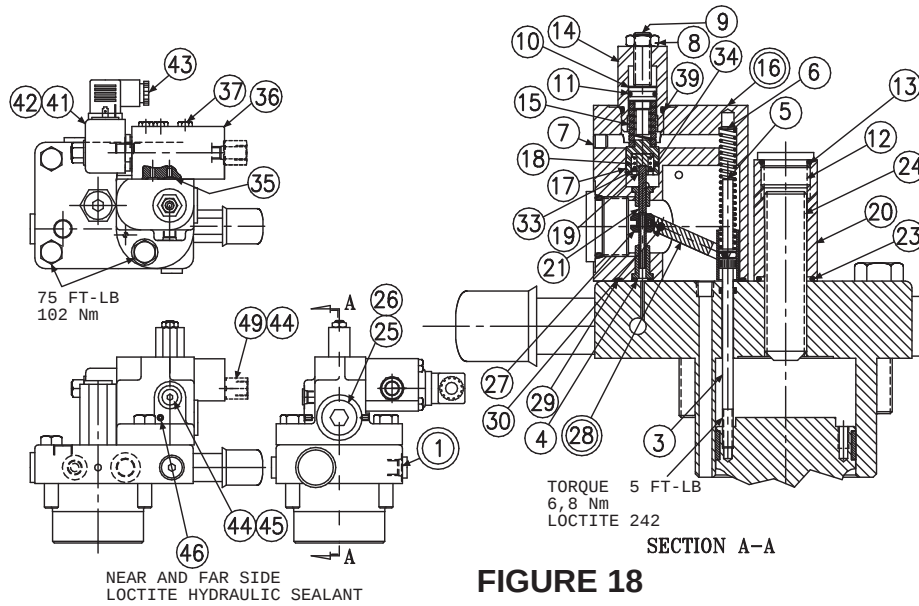

FIGURE 18
PARTS LIST FOR FIGURE 18
1. **See Figure 18.** Remove 3 screws (37) holding block (36) to body (16).
2. Remove 2 screws holding body (16) to cap assembly (1).
3. Remove all parts from body (16) except pin (30) and arm assembly (28). It is not necessary to remove these parts unless broken or worn. Examine parts for wear or damage.
4. Remove screw (3). Examine head for excessive wear, and body for smooth sealing surface with O-ring.
2. Install spool (4) into bore as shown. Install spring (8) over end of spool.
3. Install O-ring (13) on spring retainer (12). Install retainer (12), screw (14), and nut (15) in plug (3).
4. Install O-rings (7) and (16) on plug (3). Install plugs (3) and (9) in body (1). Install orifice (20) and plugs (10). Torque plugs. Install O-ring (5) in cap.
5. Turn screw (14) in until spring retainer (12) contacts spring (8). Turn an additional 1-1/2 turns and lock in position.
8. **See Figure 18.** Apply Loctite 242 on threads of screw (3), lubricate the shank, thread through the cap into the control piston, and torque to 5 lb.*ft., 6.78 N*m.
9. Install minimum stop screw (24) and turn clockwise to stroke pump to full volume. Measure height from control cap to top of screw (3). With control piston at full stroke, dimension must be .45 +/- .03 in., 11,4 +/- 0,76 mm. Back out minimum stop screw (24) till there is no contact with control piston.
10. Press dowel (30) into body (16), through the link (28), to 1/4, 6,35 mm below surface, apply Loctite Hydraulic Sealant to threads of screws (46) and install over dowel (30).
11. Press spool (21) into retainer (19). Caution: do not use excessive force. Place spool/retainer assembly into spool (17) with spring (18) and washer (34). Secure with retaining ring (33).
12. While sleeve (27) is engaged into dowel on link (28), slide above spool assembly into bore of body (16), and through sleeve (27). Spool (21) must move freely and easily at all positions of the link (28).
13. Install proportional valve (41) in block. Torque to 20 ft.*lbs., 27 N m.
15. Assemble all other components into body (16) per above drawing. Torque the plug (12).
16. While spring retainer is engaging clevis pin (5) under dowel of link (28), slide the other opening of spring retainer over the top of the screw (3). Attach body assembly (16) to cap (1) with two screws and torque to 75 lb.*ft., 102 N m.